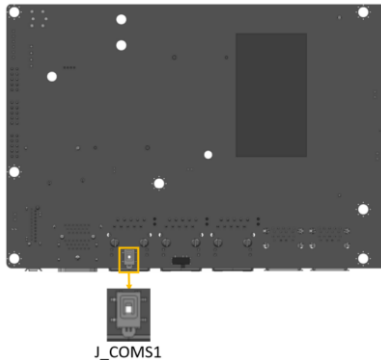

Figure 3-38: Clear CMOS Location
- CN Location:** See **Figure 3-38**